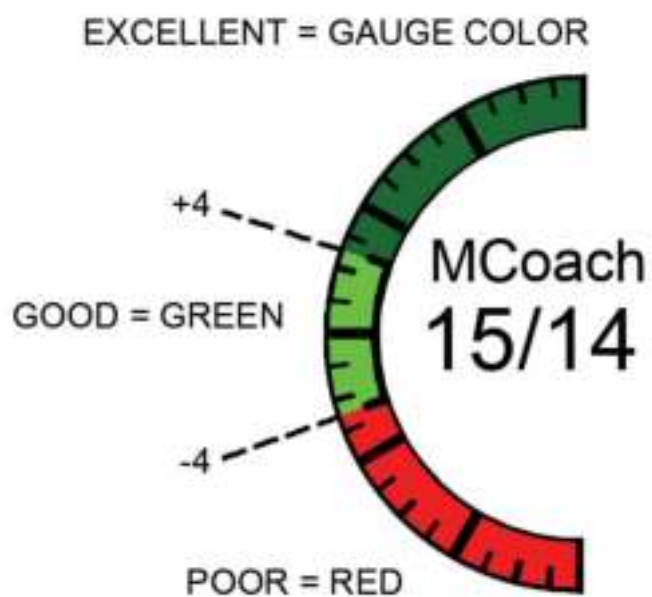

Figure 12A
3) Mileage Coach: This PID takes the Average and Instantaneous values mentioned above and creates a visual tool to help maximize your fuel economy. This PID is best viewed using one of the Analog Gauge locations. Figure 12A shows an
Looking at Figure 12A, you will notice the level indicator has been separated into 3 colors. The Green color in the middle indicates that your driving habits are producing good fuel economy. The Red indicates that your driving habits are not producing the best fuel economy and that there is room to improve. The upper “Gauge Color” (depends on the color you chose in the PID properties) indicates that your driving habits have been maximized, and you are getting the most out of your fuel.